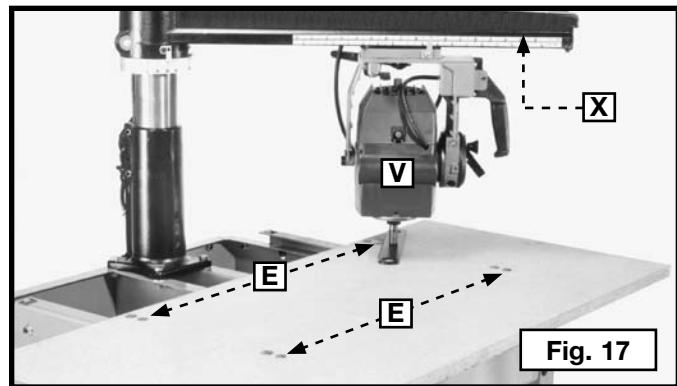
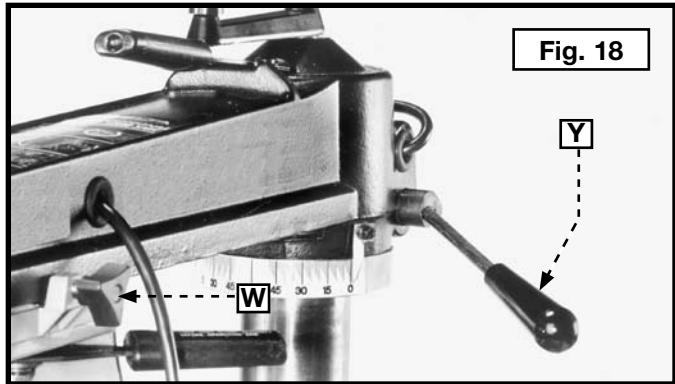
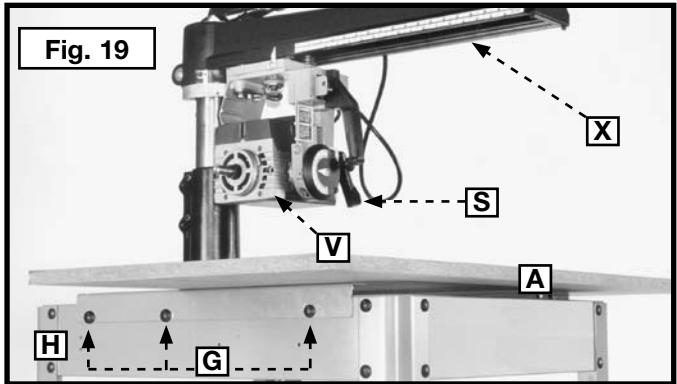

Fig. 17
Fig. 18
Fig. 19
12. Check the height of the table board above the other three table board adjustment screws (E) Fig. 17 by repositioning the track arm (X), and the cuttinghead assembly (V) until you determine the highest point of the table.
**NOTE:** Make certain that the cuttinghead clamp knob (W) Fig. 18 and the track arm clamp handle shaft (Y) are located above each of the adjustment screws. Do not change the height of the track arm (X) Fig. 17 until you determine the highest screw and have adjusted all four corners of the table board.
13. Position the motor shaft over the three lower corners of the table board. Adjust the table adjustment screws (E) Fig. 17 until the arbor wrench fits between the arbor shaft and table board in each location.
14. Tighten the three screws (G) Fig. 19 on each side of saw base (H). Return the track arm (X) and the motor (V) to the 90° position. Tighten the bevel clamp lever (S) and the track arm clamp handle (Y) Fig. 18.